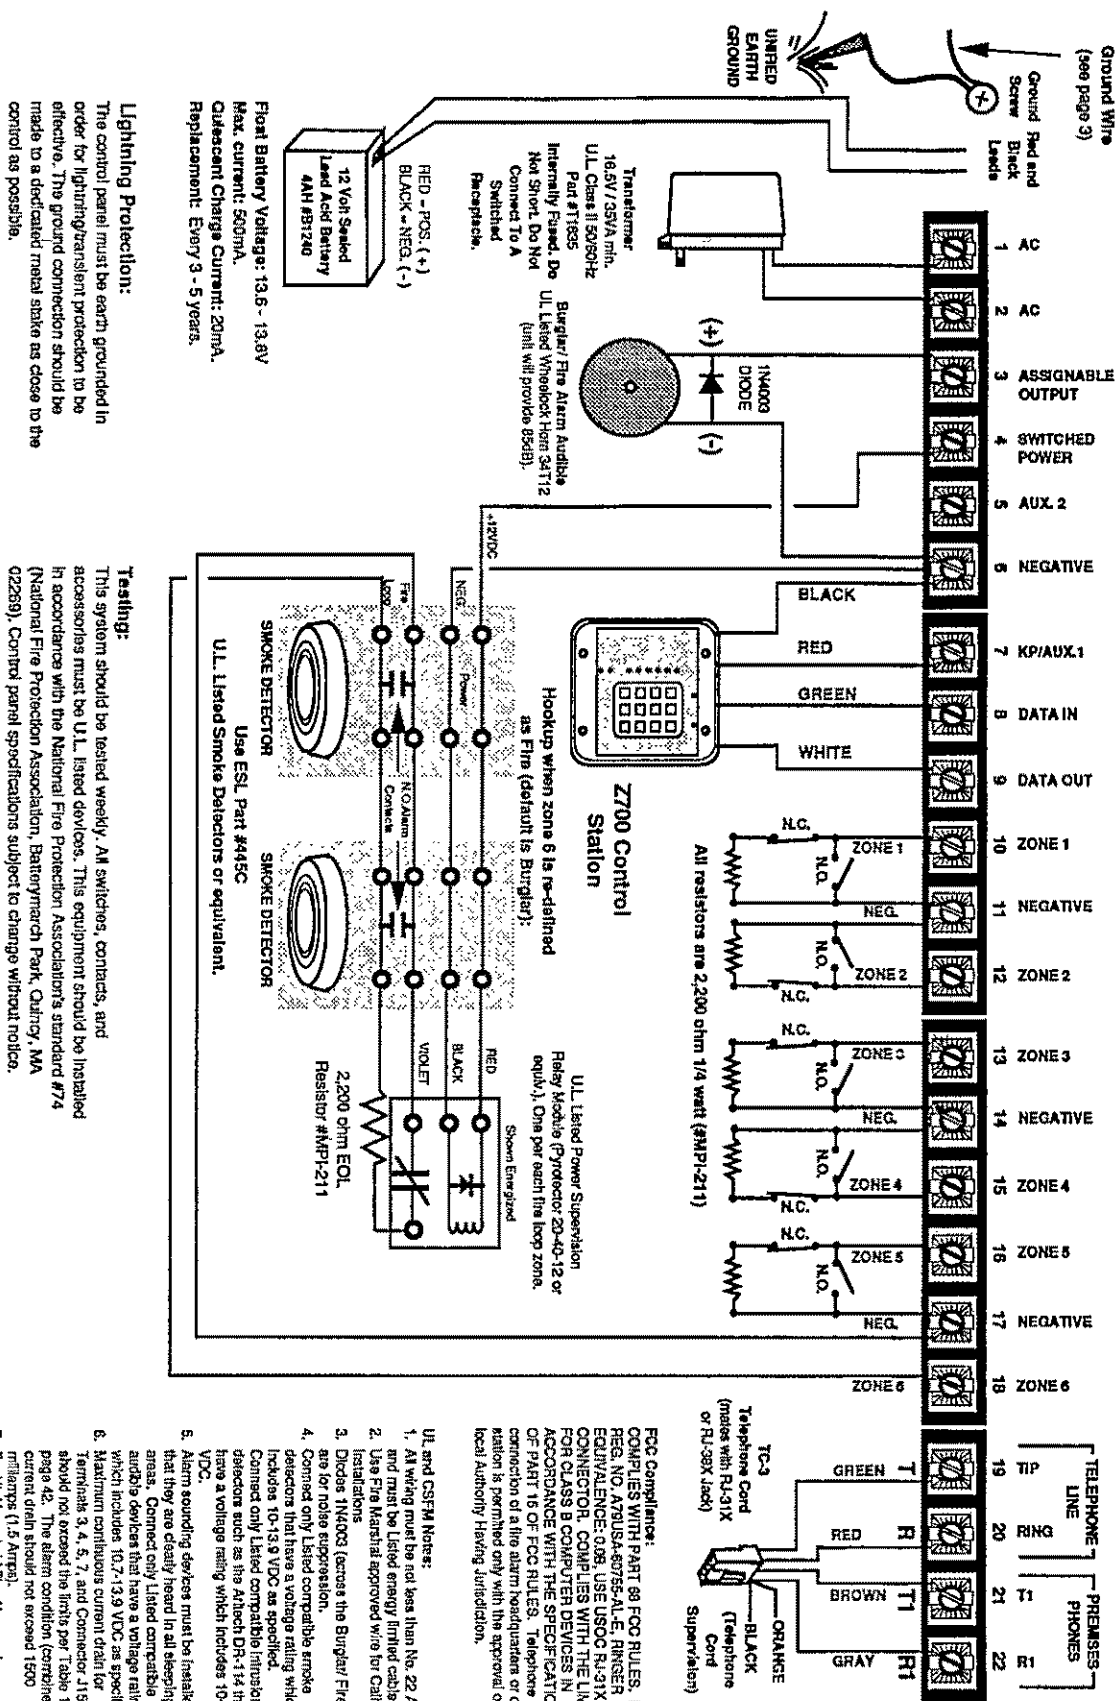

FIGURE 4 SUGGESTED U.L. HOUSEHOLD BURGLAR ALARM AND/OR (FIRE *ff*) ALARM HOOKUP
The control is powered by a 16.5 volt 35VA U.L. listed Class II plug-in transformer (part # T1635/supplied). Follow the wiring instructions as indicated in Table 1 and Figure 4 and 5.
2. Connect all alarm sensors to the zone wiring as per the instructions provided by the individual sensor manufacturer and Figures 4, 6 and 7.